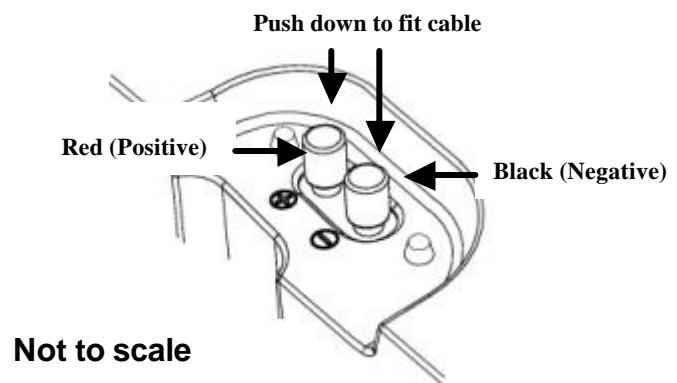

Fig 4
2. Cut hole and Locate speaker cable and connect as shown below Fig 4.